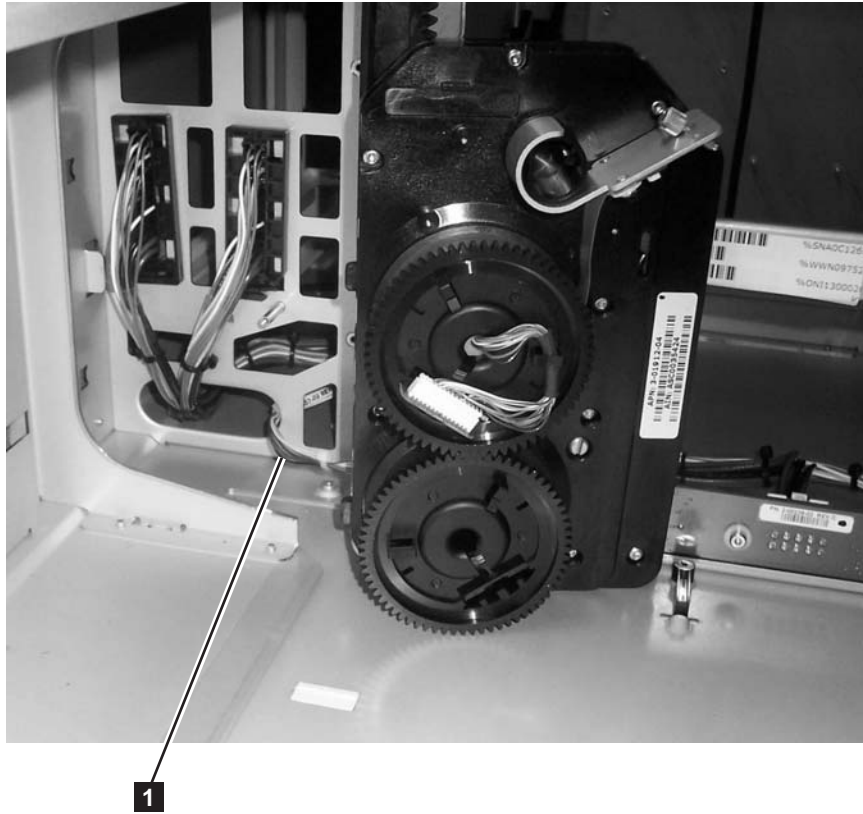

Figure 8-56. Cable Spool cable routing through enclosure wall
8. Remove the Cable Spooler Assembly from the control module. Carefully route the cable (**1** in Figure 8-56 on page 8-58) disconnected from the distribution board through the holes in the enclosure to avoid damage to the cable.
1. Insert the Cable Spool Assembly into the control module. Carefully route the cable disconnected from the distribution board through the holes in the enclosure (**1** in Figure 8-56) and to the left of the screw stand-off to avoid damage to the cable.